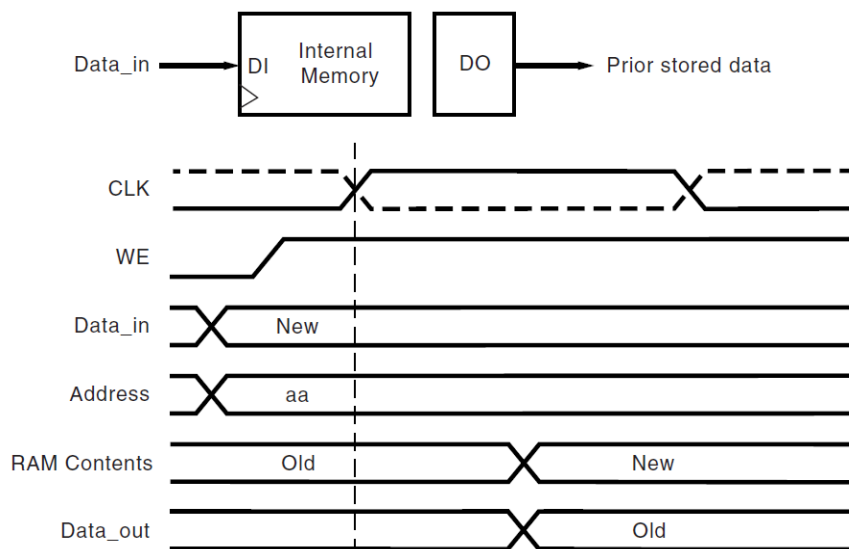

Figure 25 READ_FIRST Mode
The READ_FIRST option is a read-before-write mode. The same clock edge that writes data input (DI) into the memory also transfers the prior content of the memory cell addressed into the data output registers DO, as shown in Figure 25